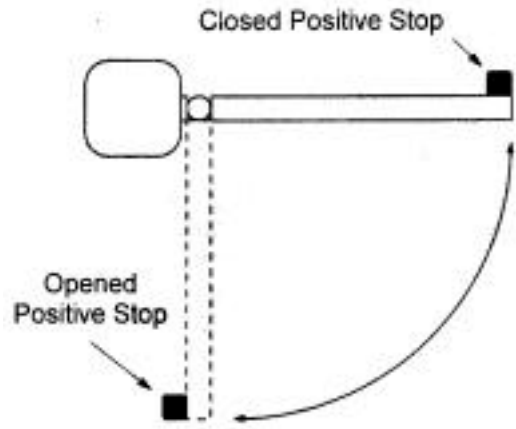

Figure 5. Positive stops are required in the fully opened and fully closed gate positions
3. Make sure the gate leaf has positive stops in both the opening and closing directions (see Figure 5).